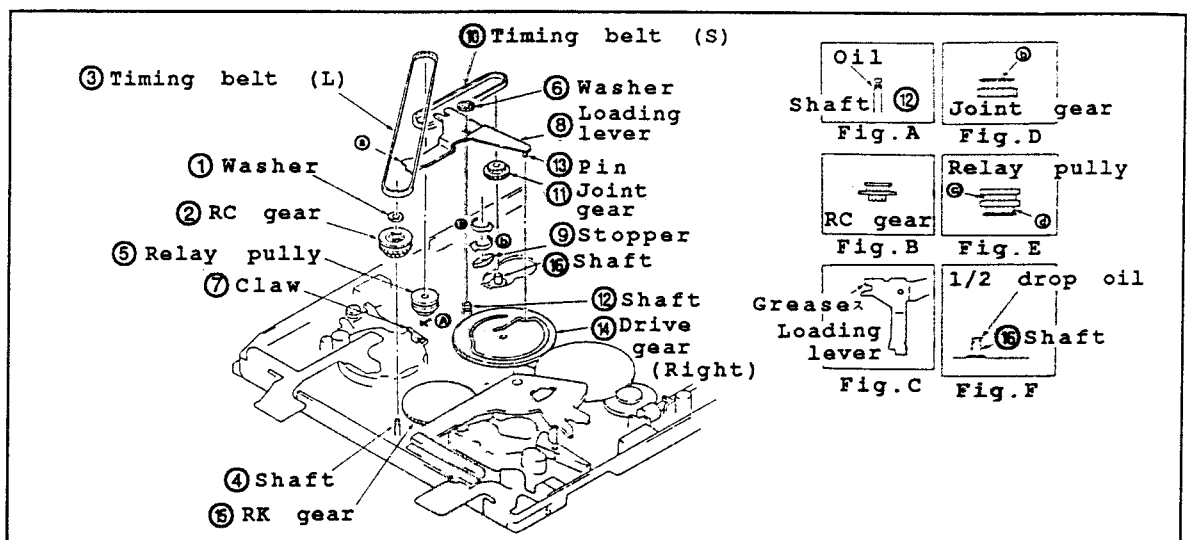

Fig.II-21
• Disassembling (Fig.II-21)
- (1) Set unloading state
- (2) In the same procedures in "3-3", dismount the capstan motor.
- (3) In the same procedures in "3-13", detach the pinch sub arm.
- (4) Remove the washer ①. Then dismount the RC gear ② (with the timing belt (L) ③ hooked) from the shaft ④.
- (5) Remove the washer ⑥. Then, detach the loading lever ⑧ while pushing the claw ⑦ toward the direction A.
- (6) Turn the stopper ⑨ toward the direction B by 90°.
- (7) Detach the joint gear ⑪ (with the timing belt (S) ⑩ hooked) from the shaft ⑫.
- (8) Separate the timing belt (S) ⑩ from the relay pulley ⑤.
*Note: When dismounting the gear ⑪, do not touch the flange B part. (Fig.D)
• Reassembling (Fig.II-21)
- (1) Apply 1/2 drop of oil to the shaft ⑫. (Fig.F)
- (2) Hook the timing belt (S) ⑩ to the joint gear ⑪, and then to the gear C of relay pulley ⑤ (Fig.E).
- (3) Attach the joint gear ⑪ to the shaft ⑫ with the timing belt (S) ⑩ attached.
- (4) Turn the stopper ⑨ toward the C direction until it comes to an end.
- (5) Apply 1/2 drop of oil to the shaft ⑫. (Fig.A)
- (6) Insert the loading lever ⑧ into the shaft ⑫. Then, match the a part with the claw ⑦ and insert the pin ⑬ into the groove of drive gear (right) ⑭.
- (7) Secure the washer ⑥.
- (8) Hook the timing belt (L) ③ to the gear as indicated in the Fig.B, and to the gear C of the relay pulley ⑤. (Fig.E)
- (9) Mount the RC gear ② to the shaft ④ (with the timing belt (L) ③ attached). Then, mesh it with the RK gear ①.
- (10) Secure the washer ①.